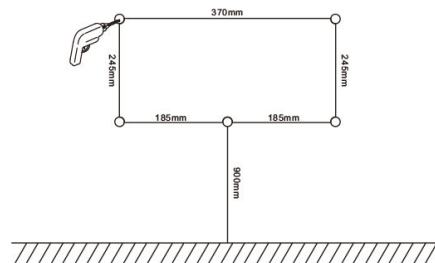

FIG. 1
1. Rack 90cm high from the ground, drill five holes according to the size mark on the instruction.(fig1)